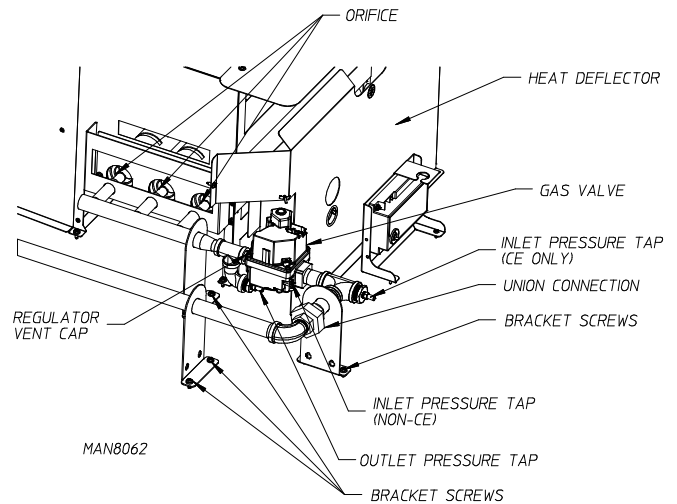

FIGURE 5
4. Remove (4) screws holding heat deflector, then move it to the right approximately 4-inches as shown in figure 5.
6. Remove (4) screws from the brackets that are holding the gas valve/manifold assembly to the top console base. Remove the gas valve/manifold assembly from the dryer.
7. Unscrew (3) main burner orifices from the manifold and replace with the (3) L.P. orifices provided.
To adjust gas valve’s internal regulator, remove the regulator vent cap (figure 5). Turn the plastic adjustment screw in the valve. Turn the screw clockwise to raise pressure and counterclockwise to lower pressure.
CE Dryers: Back out miniature screw inside pressure tap and attach manometer. Refer to figure 5 on page 21.
Non-CE Dryers: Install pressure tap and attach manometer. Refer to figure 5 on page 21.